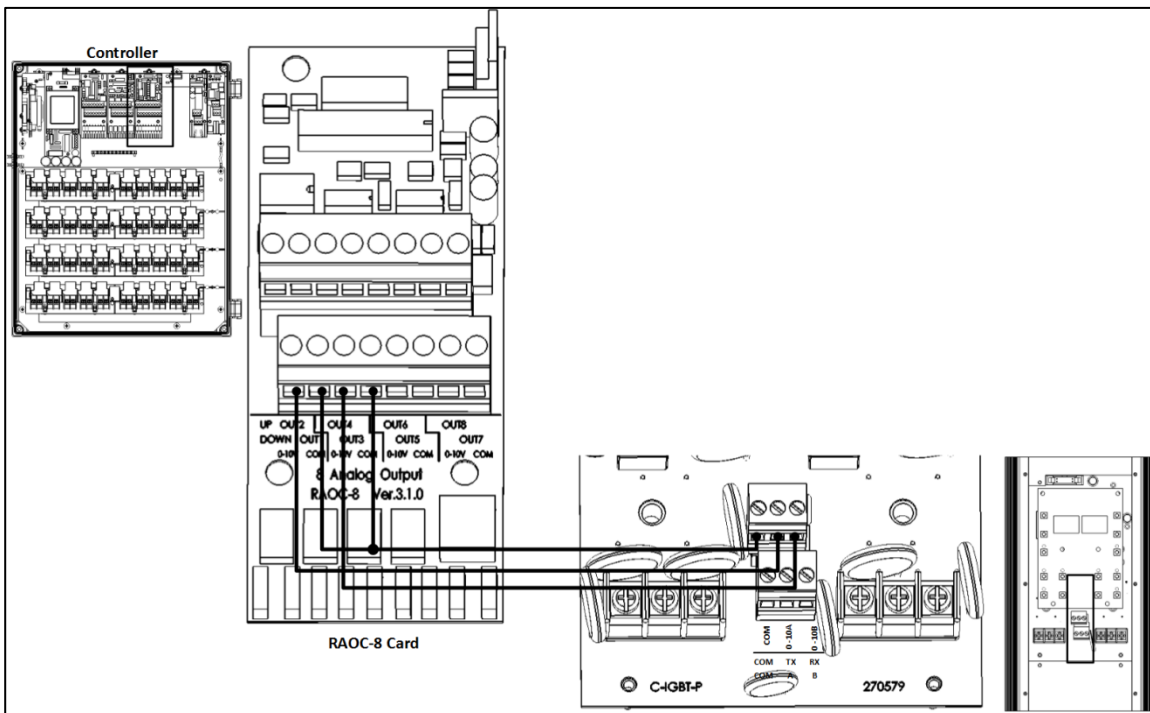

Figure 6: RAOC-8 (Analog Output) to RLED 2.0 Wiring Diagram
Figure 6 key
1. Connect the 0 - 10 VDC (+) and COM (-) wires from the external device to terminal ports "0 10V A", "0-10V B" and COM (Figure 6).